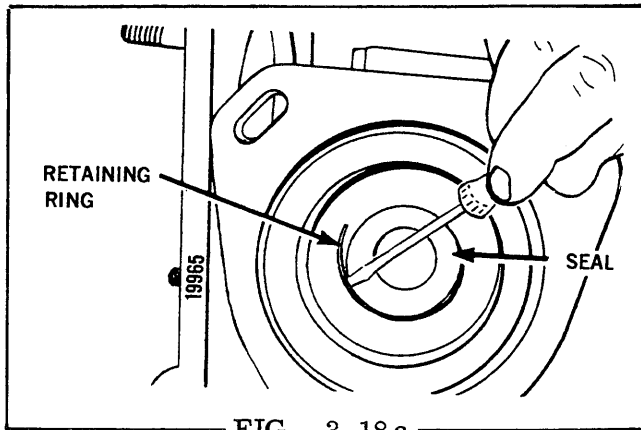

FIG. 3.18a
STEP 18 Remove the seal retaining ring from the housing (Fig. 3.18a).